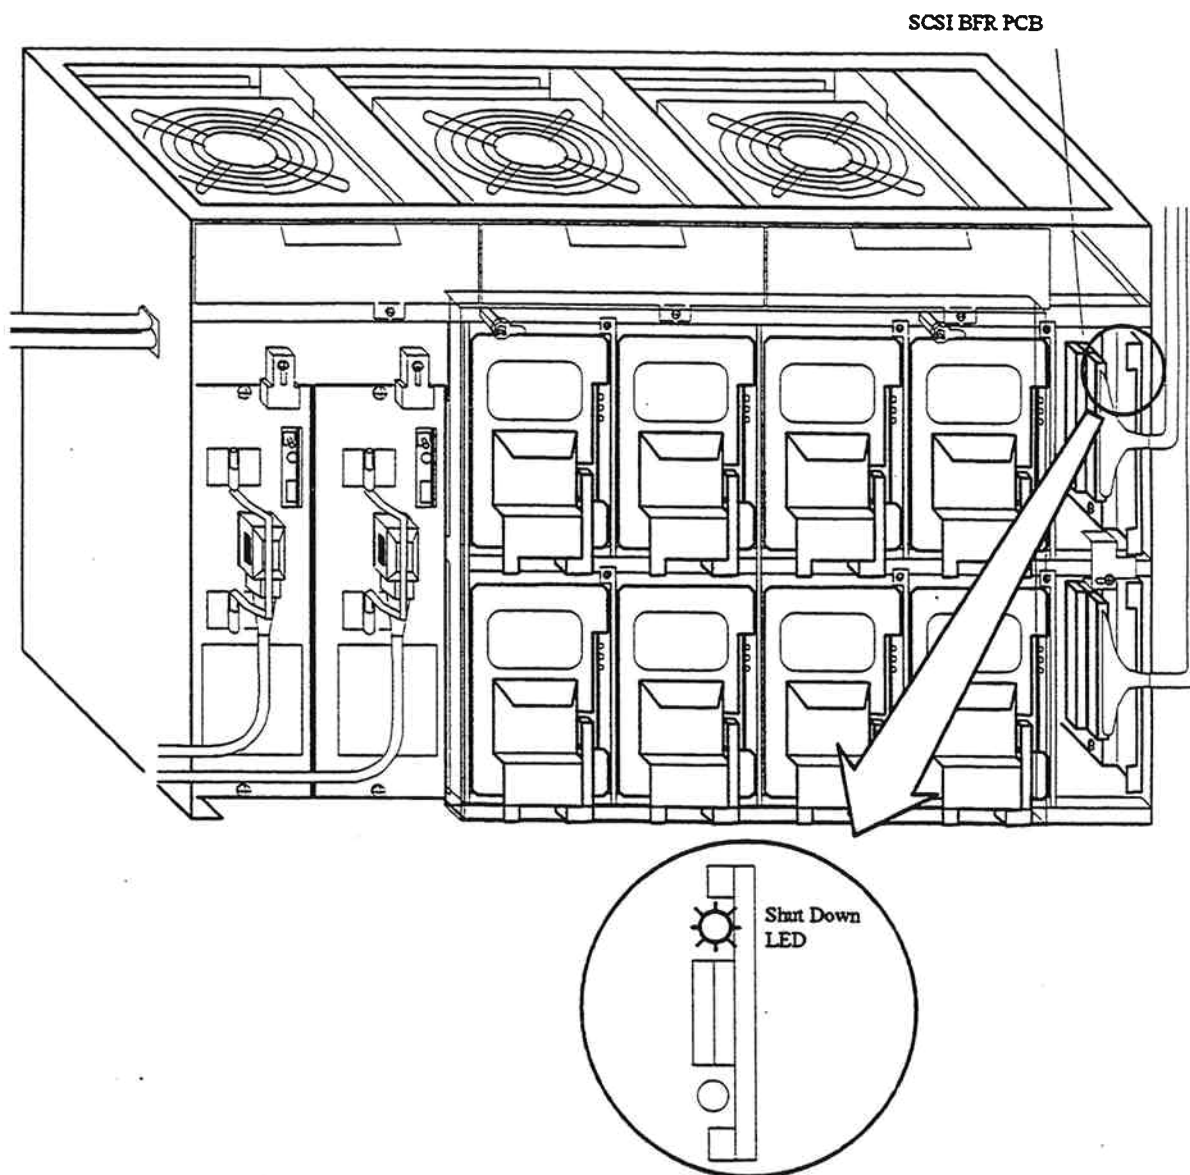

Fig. 3.3.13.2.6-3 Confirmation of the Shut Down LED Light
4. Connect the SCSI interface cables to the SCSI BFR PCBs in the second DKU chassis referring to figures 3.3.13.2.6-4 and 3.3.13.2.6-5.